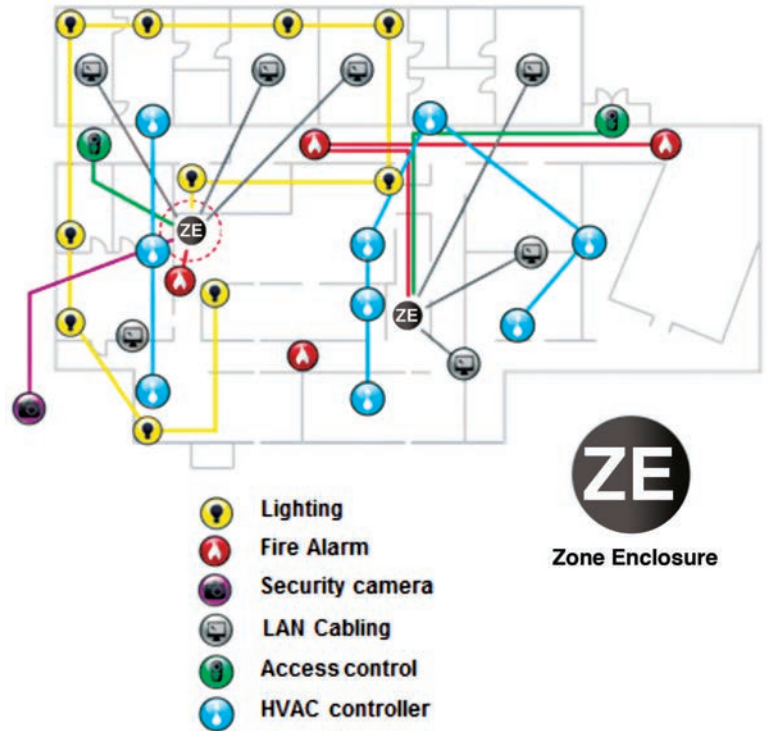

Figure 1: Example zone cabling layout serving voice, data, and BAS applications
A zone cabling design (or topology) begins with horizontal cables run from patch panels in the telecommunications room (TR) to connections within a zone enclosure (ZE, sometimes referred to as a zone box), which can be mounted under a raised floor, in the ceiling, or on the wall. Cables are then run from the outlets or connecting blocks in the zone enclosure to telecommunications outlets in the work area (WA), equipment outlets serving BAS devices, or directly to BAS devices. Patch cords are used to connect voice and data equipment to telecommunications outlets and to connect BAS equipment to equipment outlets. Note that the connections in the zone enclosure are made using modular outlets and/or punch down blocks - there is no active equipment in the zone enclosure. When deploying a zone cabling solution, Siemon recommends positioning zone enclosures in the most densely populated areas of the floor space. Figure 1 shows an example of a zone cabling layout .